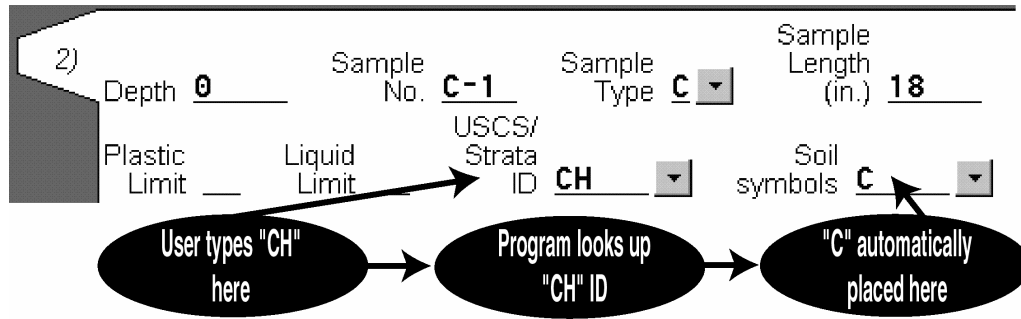

Figure 4.4: Use of the STRATA ID Field
4. The **STRATA ID** prompt allows you to specify a mnemonic that will be used to automatically select a stratigraphy symbol or symbols. Typically, the STRATA list is set up so that USCS classifications are used as strata IDs – during data entry, when the user enters a USCS classification the program automatically fills in the stratigraphy symbol selection field as illustrated in Figure 4.4.